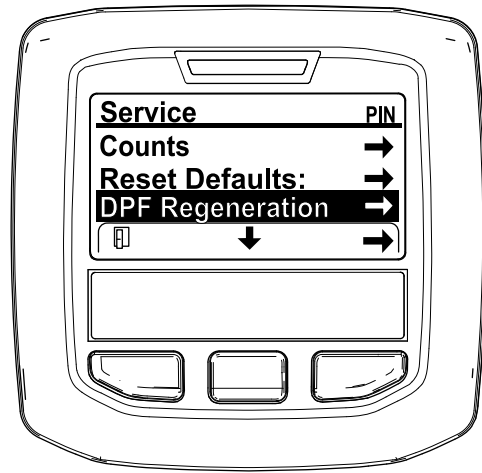

Figure 42
3. In the SERVICE MENU, press the middle button until the DPF REGENERATION options displays, and press the right button to select the DPF REGENERATION option (Figure 42).